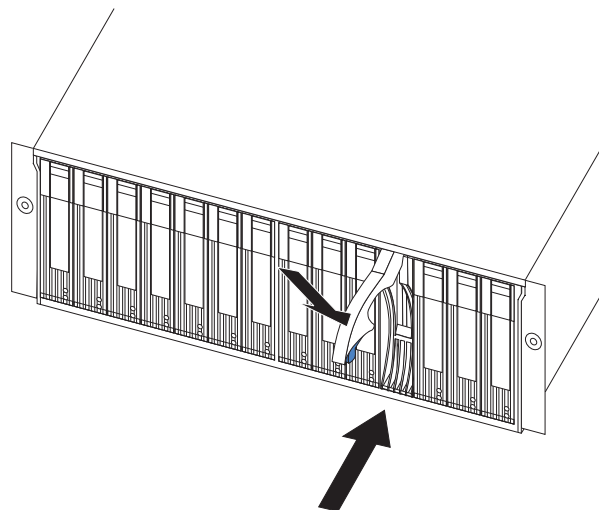

Figure 39. Closing the hot-swap hard disk drive tray handle
- b. Push the tray handle down into the closed (latched) position, as shown in Figure 39.